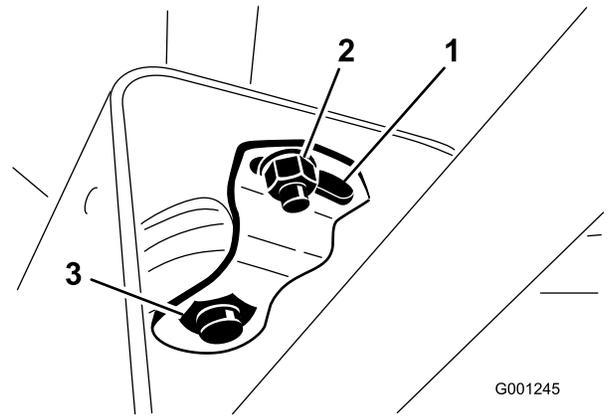

Figure 30
2. Slide the cover up the steering shaft to expose the pivot bracket (Figure 30).
3. Loosen the small nut and rotate the pivot bracket until it tightens the large nut below it (Figure 30).